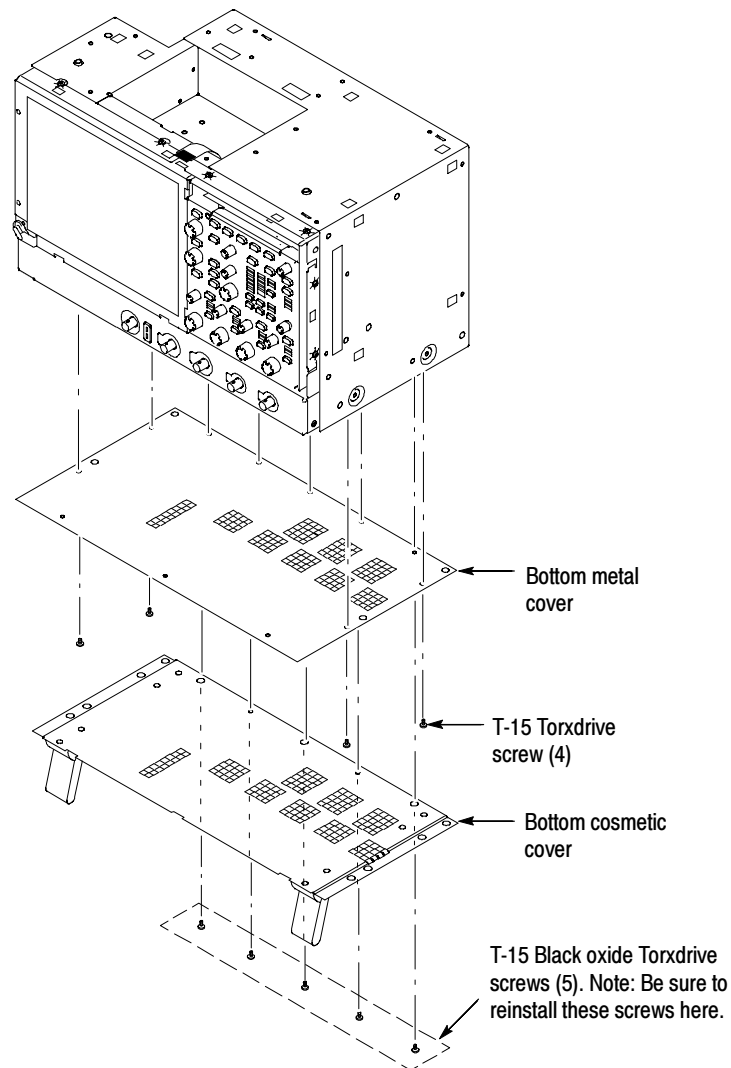

Figure 5: Bottom cover removal
1. *Remove the bottom covers:* See Figure 5.